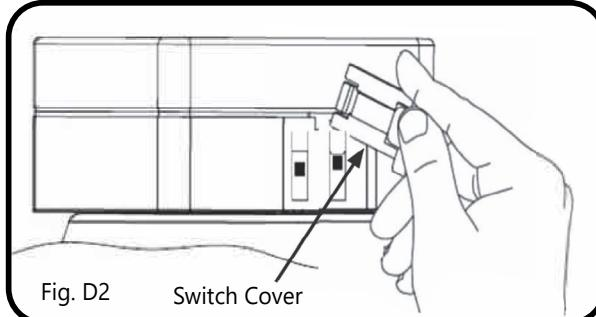

Fig. D2
- D** Remove the switch cover on the luminaire to access the lumen and CCT switches as shown in Fig. D2